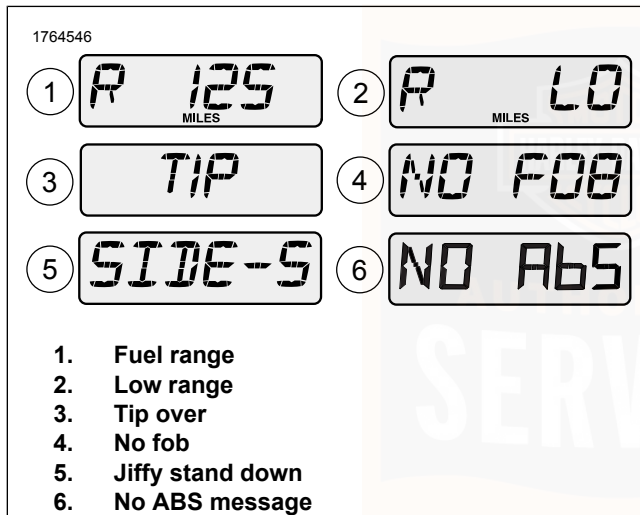

Figure 34. Odometer Window Displays
See Figure 34. The fuel range display (1) shows the approximate mileage available with the amount of fuel left in the fuel tank.
See Figure 34. After the fuel range drops to approximately 10 miles or 10 kilometers remaining, the fuel range display will scroll "R LO" (2) to indicate that the motorcycle will shortly run out of fuel.
See Figure 34. Should motorcycle be tipped over, the word "TIP" (3) appears in the odometer window. The engine can not start until reset.
See Figure 34. If the motorcycle is driven off leaving the fob behind, "NO FOB" (4) temporarily displays in the odometer window.
See Figure 34. On international (HDI) models, a "SIDE-STAND" (5) message will scroll across the display if the motorcycle is placed into gear while the jiffy stand is down. See Before Riding > Operating Jiffy Stand (Page 51).
See Figure 34. If the motorcycle is equipped with a Non-ABS brake system, a 'NO AbS' message will display in the odometer window during instrument test after ignition turned ON. See Operation > Brake System (Page 100).